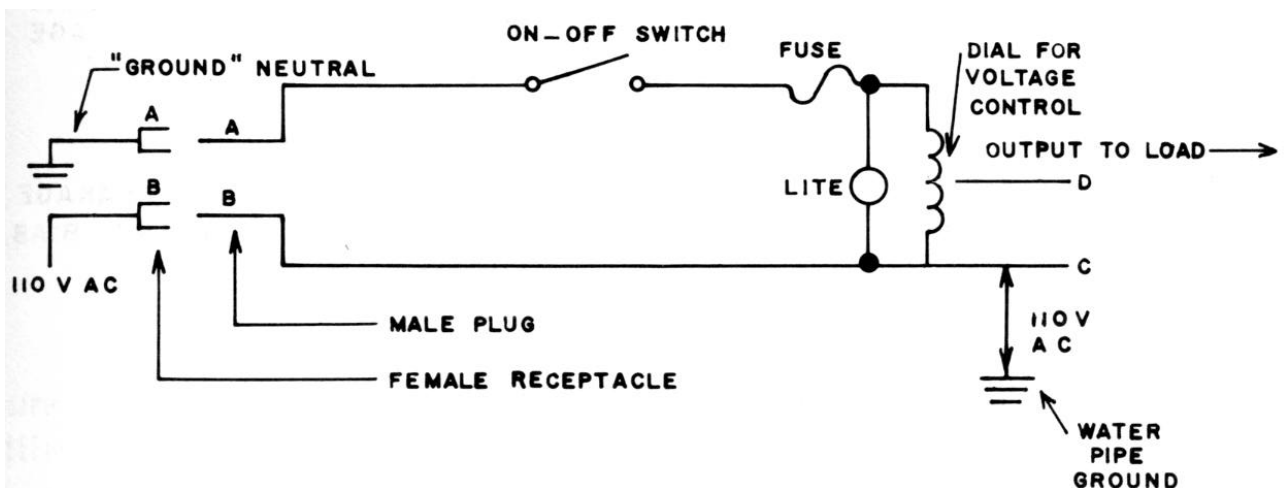

Figure 1-19. Autotransformer (Variac).
The autotransformer (Variac) is a useful gadget. It can give you any voltage from zero to full line voltage, but you had better know how it works. (There are old EEs and careless EEs, but no old, careless EEs!) An autotransformer system is shown in Figure 1-19. You should note that when the male plug is in with orientation A-A and B-B, the output lead (C) is at 110 volts *regardless of the dial setting or the on/off switch*. If you turn the plug over so it's A-B and A-B, things are okay; output C is "ground" neutral, and D is whatever voltage you set on the dial. The point here is that an autotransformer *does not* isolate you from ground. A regular transformer *does* provide isolation.